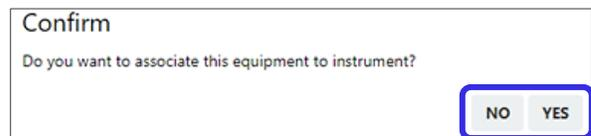

Figure 62: Choose whether to associate equipment to instrument
4. In the displayed message, choose whether to associate the equipment with an instrument (Figure 62)